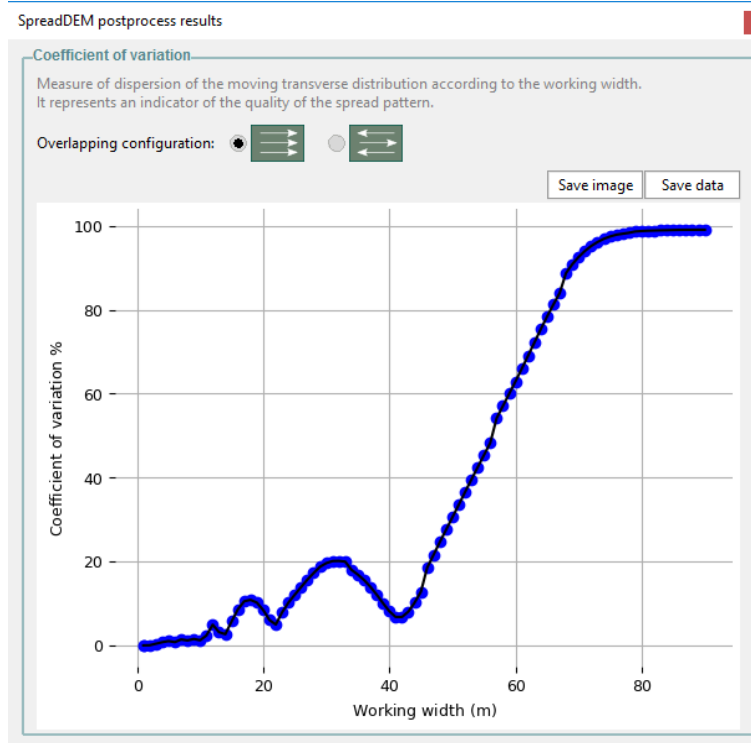

Figure 40. Moving transverse distribution.
- **Coefficient of variation (CV):** the uniformity of the dose on the field can be analyzed by calculating and representing the dispersion of the transverse distribution for different working widths (Figure 40). So with this information the user can estimate the best working width for optimum overlapping. The lower the value of the CV, the more evenly the fertilizer is spread. Generally, a 15% variation of the field dose is considered acceptable.